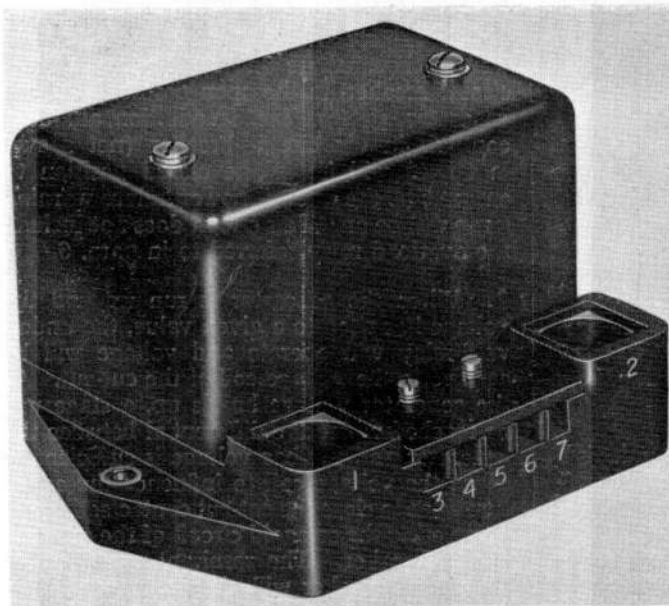

Fig. 1. A typical cut-out in the F3900 series
3. A general view of a typical cut-out in the F3900 series is given in fig. 1 and shows